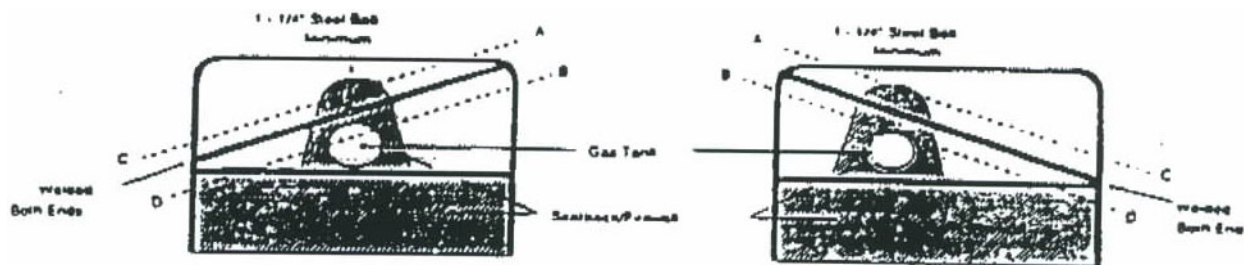

Figure 9.2 - Seat Back/Firewall, Option 3
- .3 Option 3 - The driver silhouette is supported by one diagonal reinforcing brace made of Roll Cage Material that is welded at both ends to the Roll Cage upright bars. This brace may be positioned either from the upper left to lower right or from the upper right to the lower left of the Roll Cage. This diagonal brace MUST be positioned so that the upper end is located between points A & B (see figure 9.2), and the lower end is located between points C & D. The Seat Back driver silhouette must then be securely fastened with a minimum of 1/4" steel bolt.